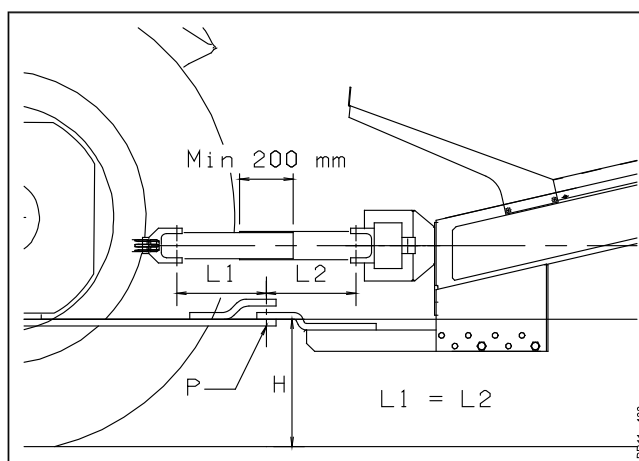

Fig. 2-11
- Fig. 2-11** The height **H** of the hitch eye must be adjusted so that the PTO shaft is horizontal. The height can be changed by moving or turning the drawbar bracket. To ensure longest possible life of the PTO shaft the following applies to standard PTO shaft without wide angle: The length **L1** must be equal to the length **L2**, i.e. the centre of rotation **P** for the drawbar must be as close as possible under the centre between the joints. The drawbar bracket on the chopper can be moved back and forth in steps of 25 mm.